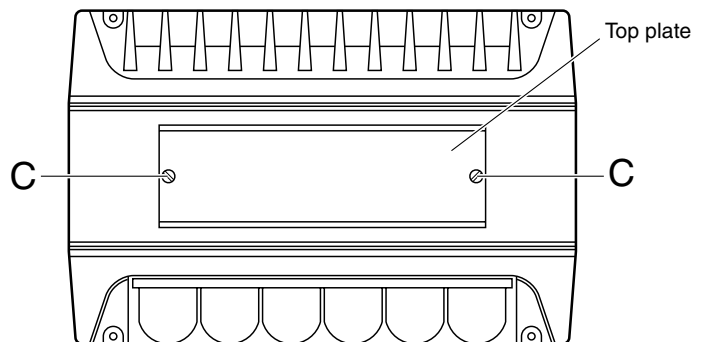

Fig. 2
■ Removing the main P.C. board (see Fig. 2 to 8)